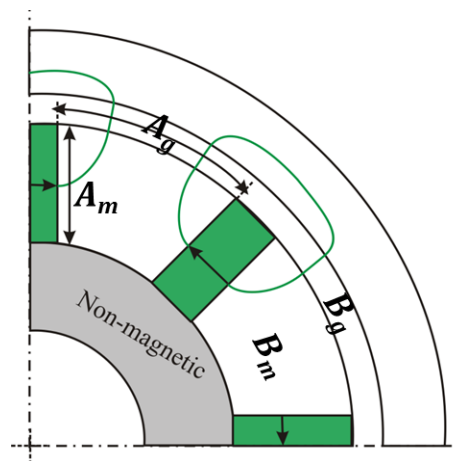

Figure 1
1. a. From the expression of Lorentz force, show that the torque density of a cylindrical electrical machine can be expressed in terms of the magnetic and electrical loadings,  $B$  and  $Q$ , respectively. List the major assumptions which you make in the derivation. (5)
- b. Derive an expression for estimating the airgap flux density in an interior permanent magnet machine with circumferentially magnetized magnets, such as shown in Figure 1. Explain why the air-gap flux density may be higher than the magnet remanence.